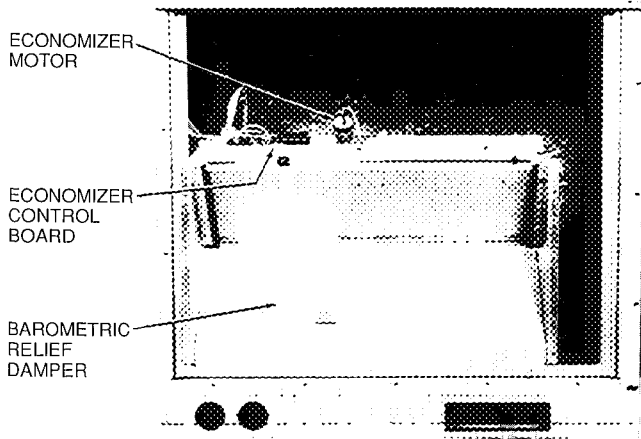

Fig. 20 – Economizer Installed in Unit
6. Remove screws securing barometric relief damper, if desired. See Fig. 20 and 21.
8. Insert economizer plug from the wiring harness (supplied with the unit) into the wiring plug on economizer control board. See Fig. 20 and 21.